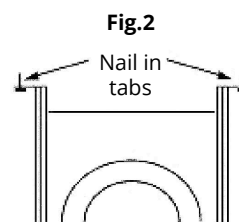

Fig.2
1. Install hanger bars to fixture — be sure end tab is facing outward (see Fig.2)
Joist-type ceilings — extend bar hangers to fit between joists. Position fixture temporarily by hammering "nail-in" tabs into joists (Fig.2) then secure permanently with nails. Hangers should be level with bottom of joists. Suspended (T-bar) ceilings — extend bar hangers 1" past T-bars then rest fixture on T-bars. Secure fixture to T-bars with wire (see Fig.C)